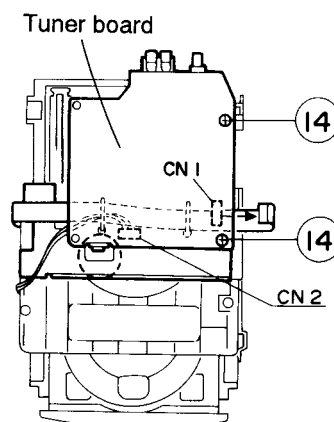

Fig. 5-14
After dismounting two spacers ⑧ in advance, remove three screws ⑬ securing the tuner board assembly. Then, remove the card wire coming from connector CN705 on the LCD/microcomputer board from connector CN1 on the tuner board (Fig. 5-14). When removing only the tuner board, remove two screws ⑭ as shown in Fig. 5-14.